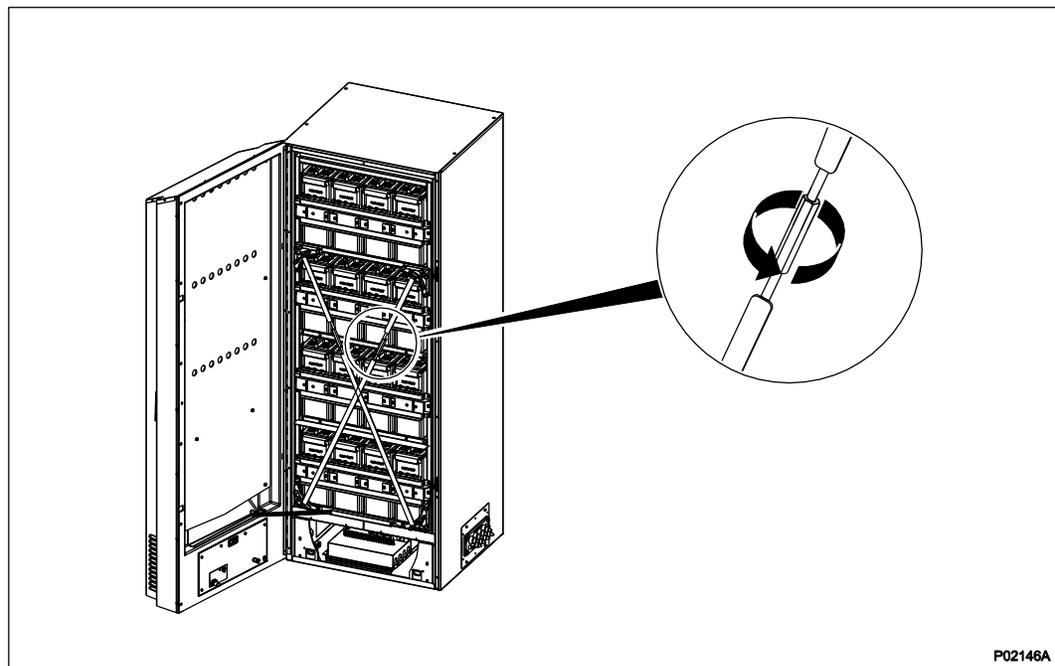

Figure 9 Remove Cross Braces
1. Remove the cross braces as in Figure 9.